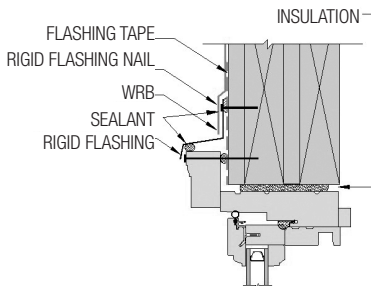

FIG. 14: HEAD JAMB
- N) Finish nailing the window into place through the brickmould. Space the nails 8"-10" apart. Add nails through side jambs, sill nose, and head jamb as shown in Figs. 14, 16, 17 & 18.
- A) Apply sealant: Apply a horizontal bead of sealant between the top edge of the rigid metal flashing and flashing tape between the rigid metal flashing and the top of the brickmould. (Fig. 14)
- B) Apply the rigid metal flashing. The flashing should extend approximately 1/8" past the edge of the brickmould on each side. (Fig. 15) Nail the flashing to the rough opening using at least a 1" roofing nail every 8"-10" at approximately 1/2" below the top of the rigid flashing. (Fig. 14) Ensure that the nail is compatible with the rigid flashing material to prevent corrosion.
- C) Overlap the WRB over the rigid metal flashing. Trim the excess WRB at the rigid flashing bend that is directly below the rigid flashing nail. (Fig. 14 & 15)